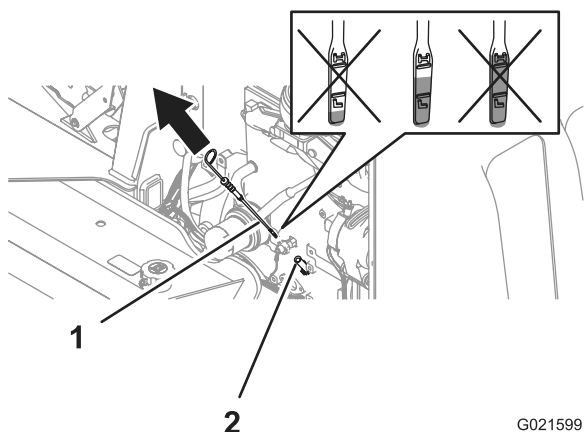

Figure 21
2. Remove the dipstick (Figure 21) and wipe it clean with a clean cloth (Figure 21).
3. Insert the dipstick fully into the dipstick tube, then remove the dipstick (Figure 21).